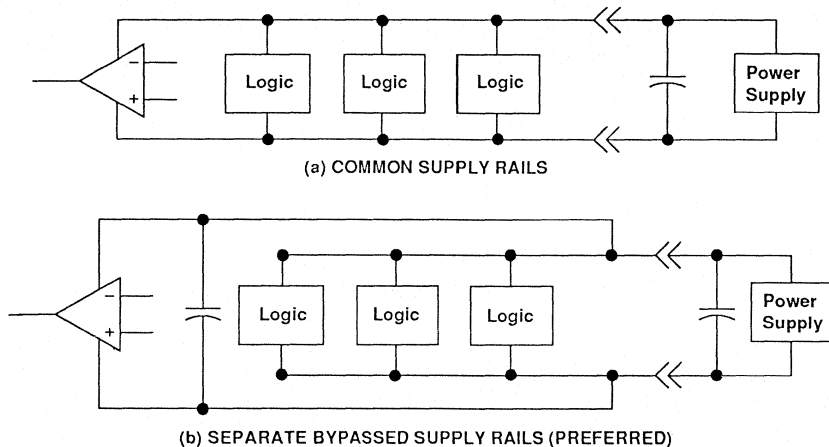

Figure 36. Common Versus Separate Supply Rails
1. Power the linear devices from separate bypassed supply lines (see Figure 36); otherwise, the linear device supply rails can fluctuate due to voltage drops caused by high switching currents in the digital logic.